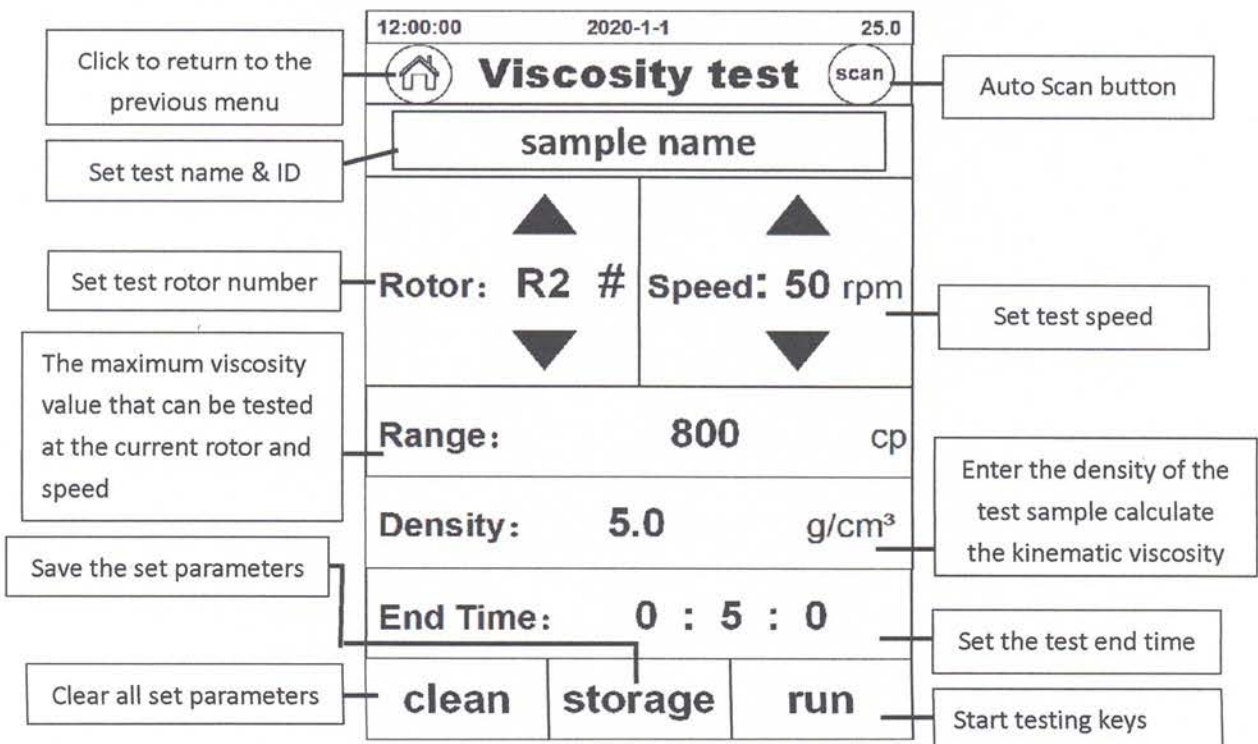

Fig. 18
1) Click on "Viscosity Test" to enter the viscosity test interface (Fig.18)
2) Parameter setting: Before the viscosity test, the test parameters suitable for the sample to be tested must be set (Fig.18), where "Sample name (when the sample name is not set, the default is the year, month, day and time node of the test), "Rotor" and "Speed" are required,